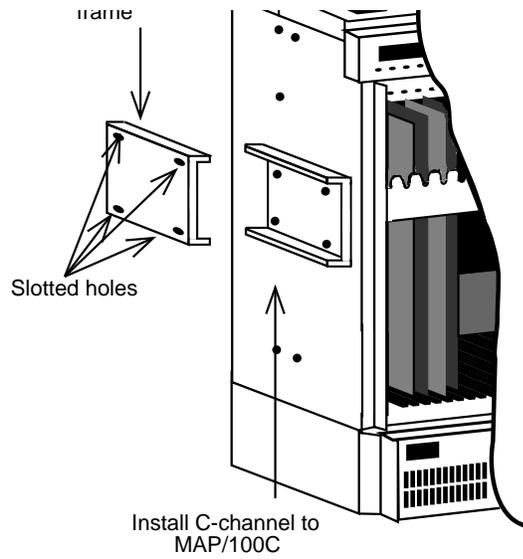

Figure 2-16. Installing C-Channel Brackets onto the Frame and the MAP/100C
3. Install C-channel brackets on the 5ESS Switch frame and on the MAP/100C. There are two sets that accompany each unit. The slotted C-channel must be installed onto the frame (Figure 2-16).